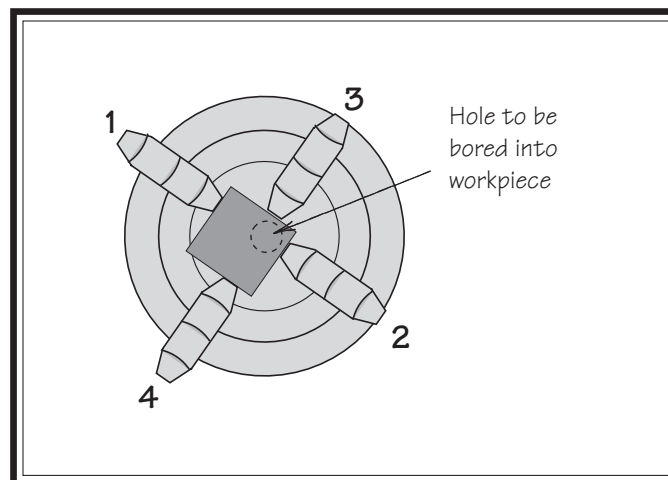

Figure 8. Tightening sequence.
6. Following the sequence shown in **Figure 8**, tighten each jaw in small increments to move the workpiece into the required position. Check frequently to make sure the intended center point of the workpiece has not wandered away from the spindle centerline while the jaws are being tightened.